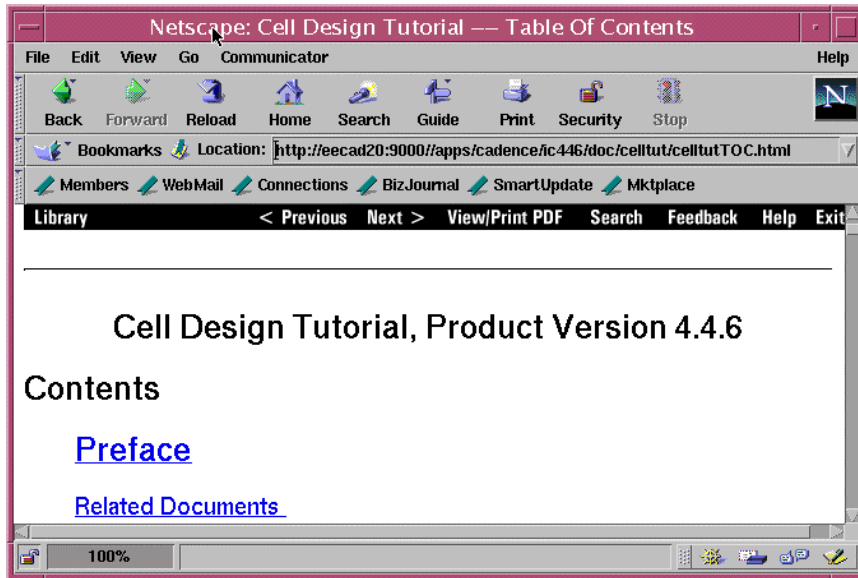

Figure 58: Netscape Browser with Tutorial
6. You might have to click several times for it to work. A netscape browser will appear like in Figure 58. All you have to do is follow the instructions.